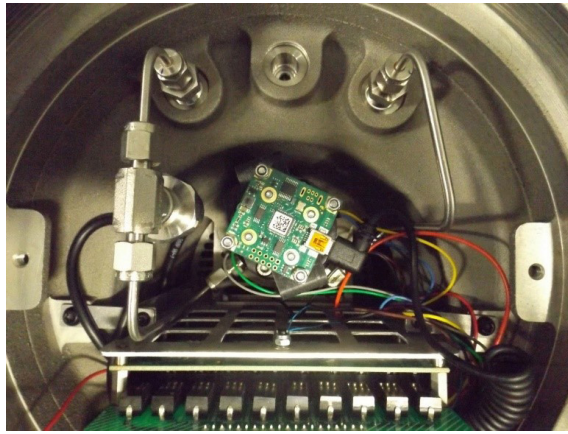

Figure 42 *Camera USB Connection*
- Gently unplug the USB cable from the camera (see Figure 42, Camera USB connection).